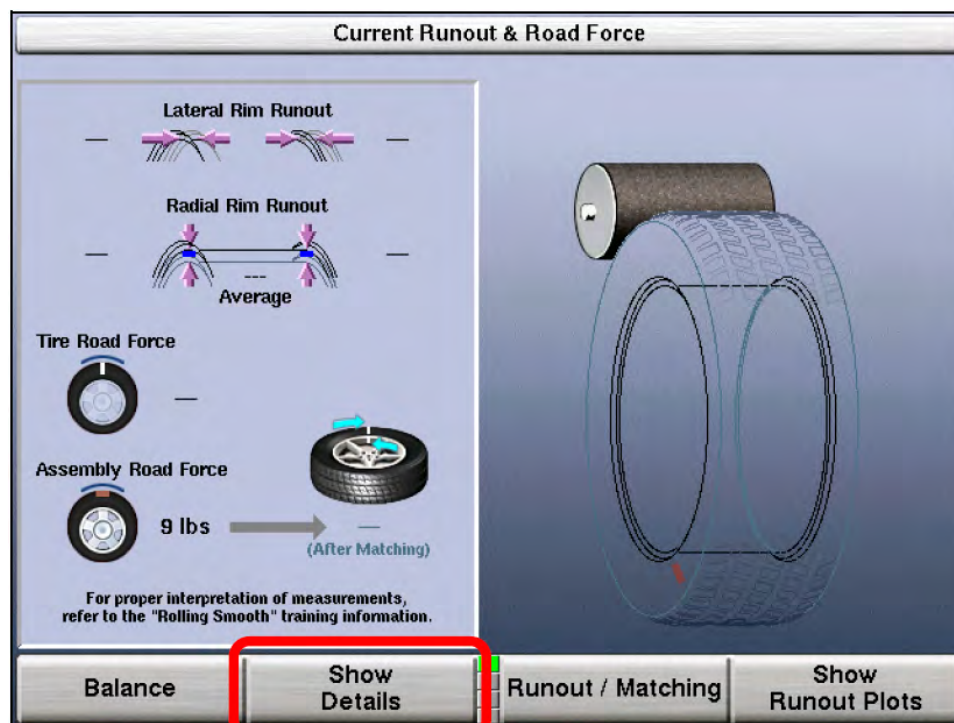

Figure 2
- b. From the "Current Runout & Road Force" screen below, select "Show Details" (see Figure 2).